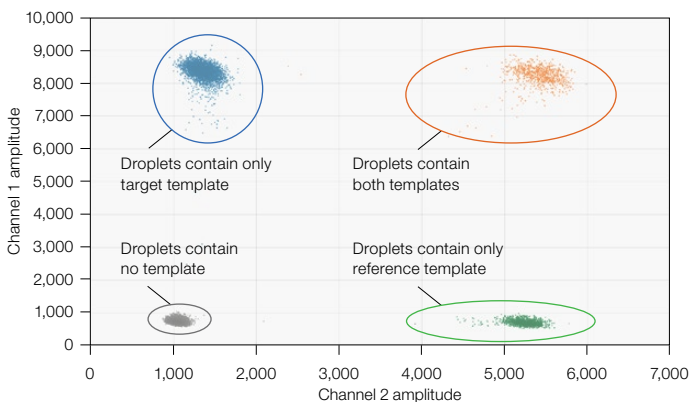

Fig. 1. Two-dimensional scatter plot from a QX200 ddPCR System. The scatter plot shows the four clusters obtained with a target (FAM) and reference assay (HEX).
- See Figure 1 for the QX200 ddPCR System